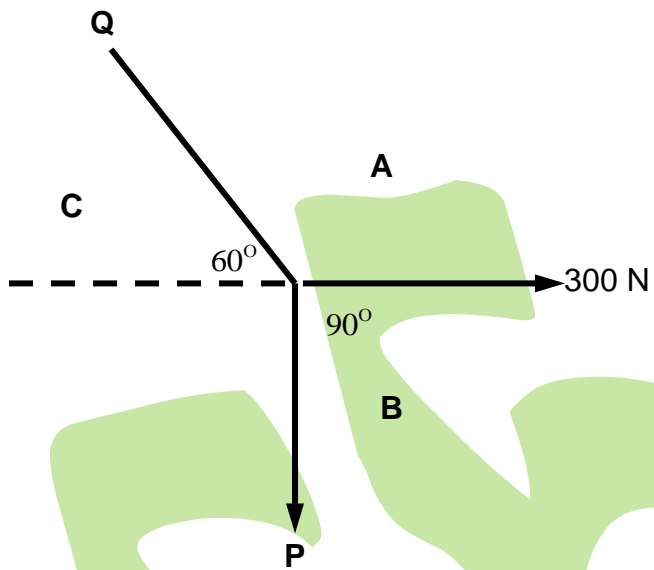

FIGURE 1
- 6.2 The three concurrent coplanar forces shown in FIGURE 1 on the ADDENDUM (attached) are in equilibrium.